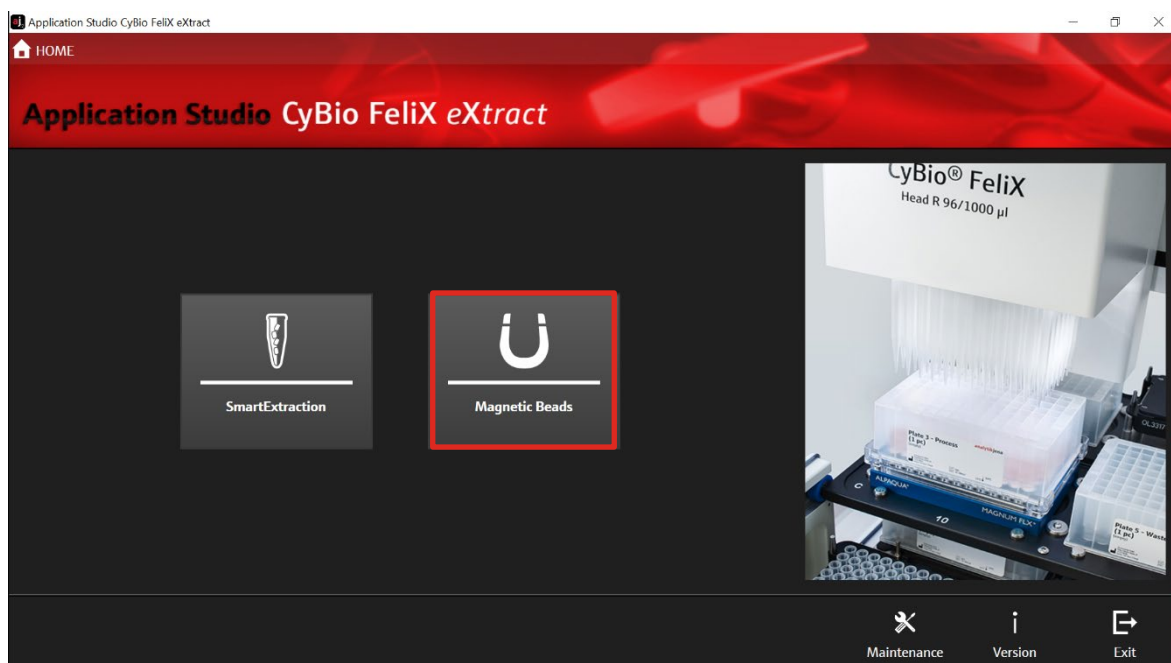

Figure 4: Homescreen of the AppStudio FeliX *eXtract*.
13. Choose "Magnetic Beads" (→ see Figure 4).